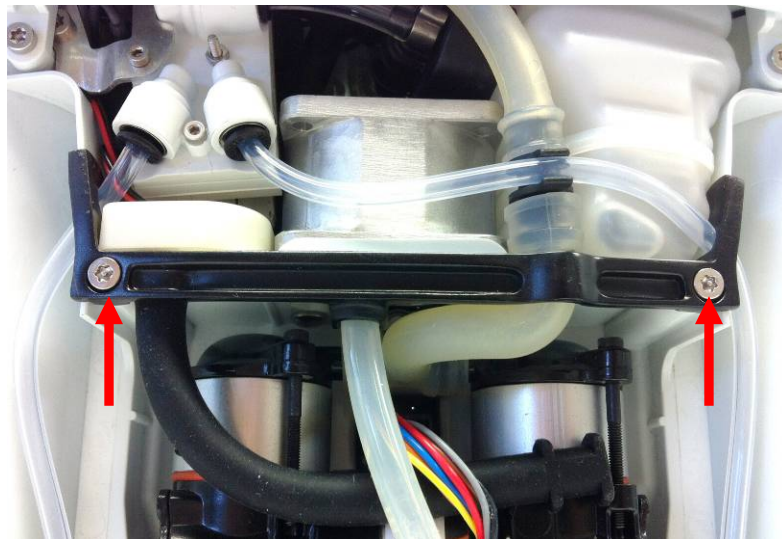

Figure 5: Tube bracket screws
1. Locate and remove the two screws that connect the tube bracket to the chassis and remove the tube bracket (Figure 5).